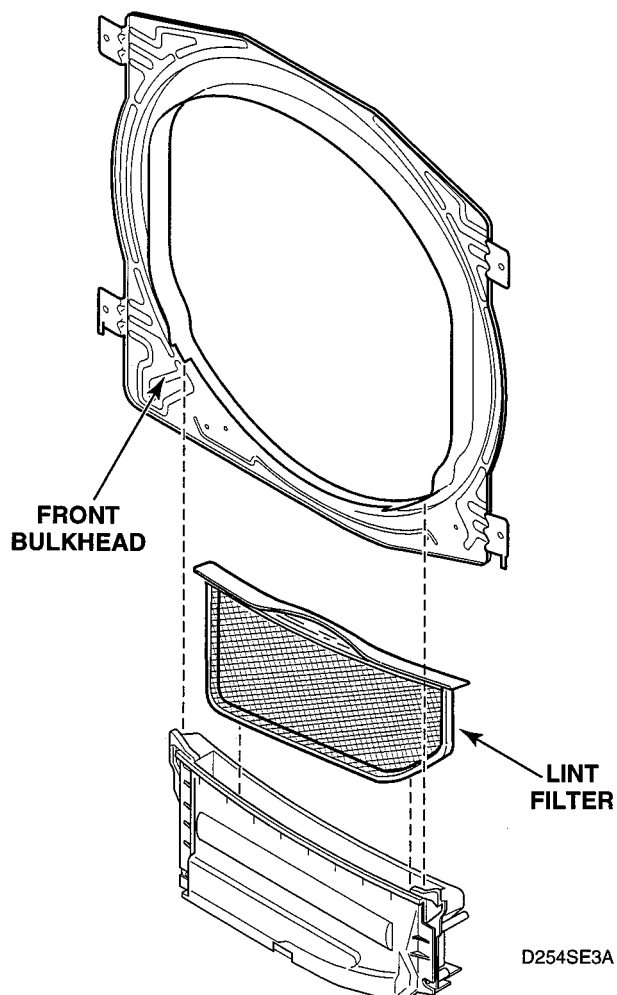

Figure 5-23
### 29. CYLINDER LIGHT (FIGURE 5-23)
(Figure 5-23)
- Open loading door and remove screw holding lens to the front bulkhead. See figure 5-23.